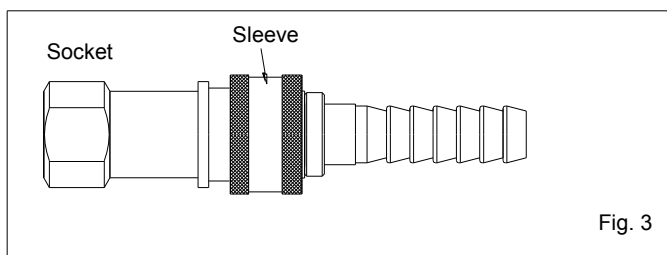

Fig. 3
3. Push plug until sleeve snaps forward (Fig. 3). (Gas will flow automatically. Failure to connect plug properly to socket will inhibit gas flow to the appliance.)